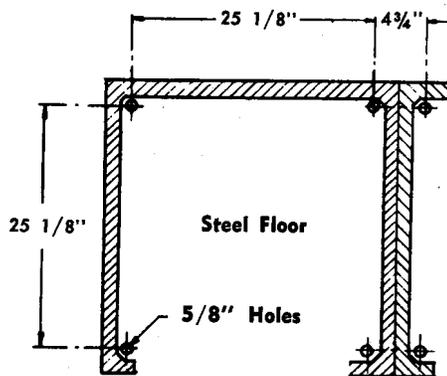

Fig. 3
3.04 All BN booths come equipped with steel floors. Use the mounting holes in this floor to anchor the booth. Anchor the booth by drilling the base to accept masonry fasteners for 3/8-16 by 1-1/4" bolts. Install the masonry fastener. (See Section 080-720-114 on machine bolt anchors.) Secure the floor to the base by using four 3/8-16 by 1-1/4" hex head bolts, four 3/8" lockwashers, and four 3/8" flat washers. (See Fig. 3)